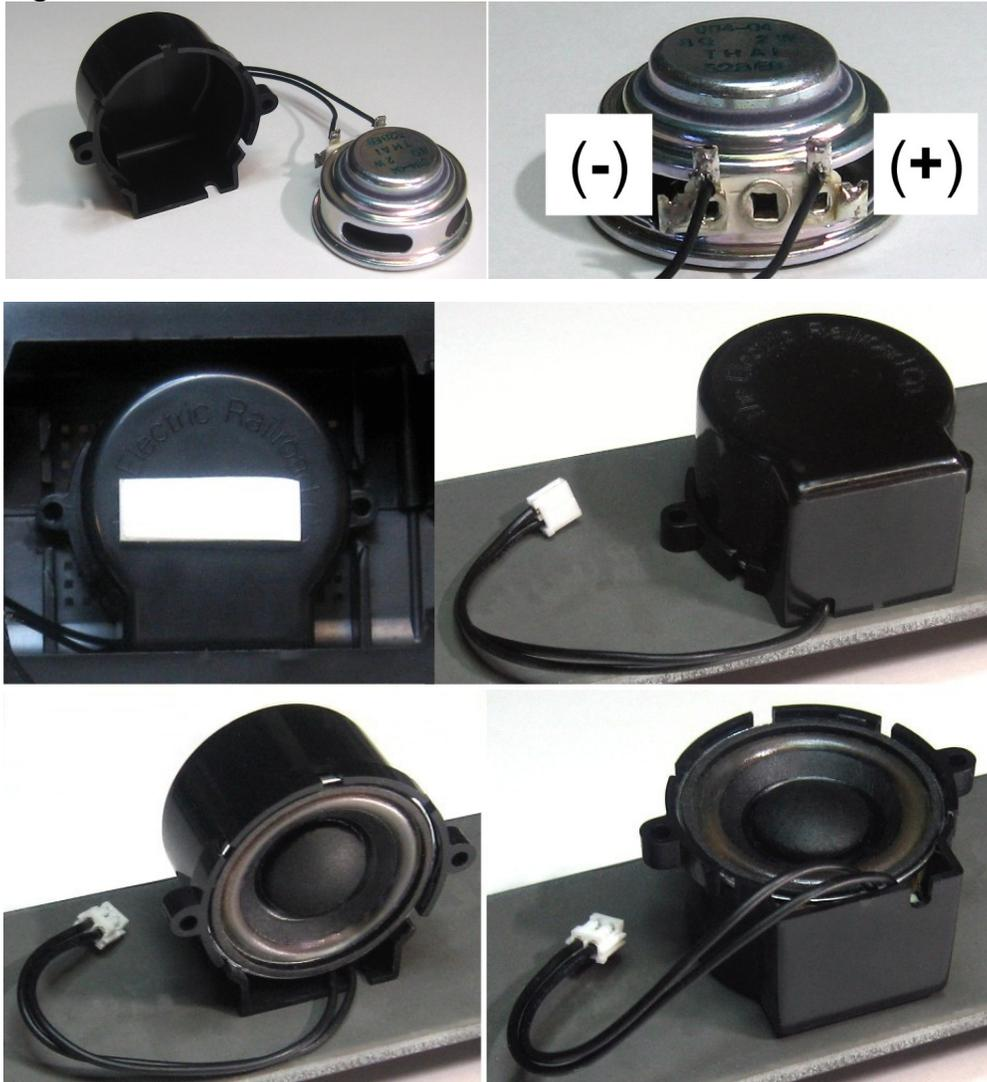

Figure 1 – Speaker & baffle with mounting options
1. A high quality speaker and matching baffle are included in the RAILSOUNDS sound kit. As shown in Figure 1, the baffle may be mounted in a variety of ways, using the mounting ears, with double stick tape, or a small hole may be drilled and a self-taping screw used.